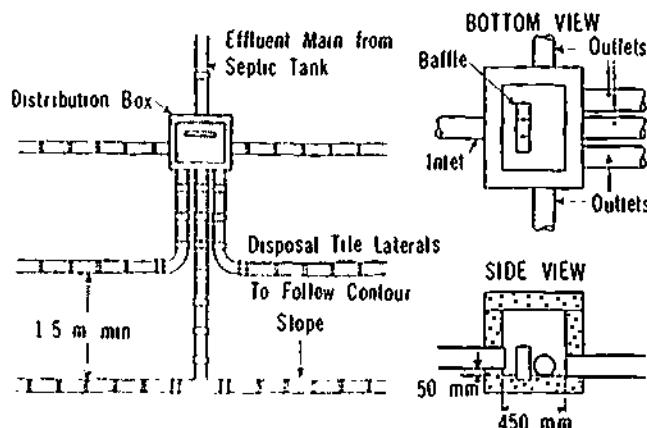
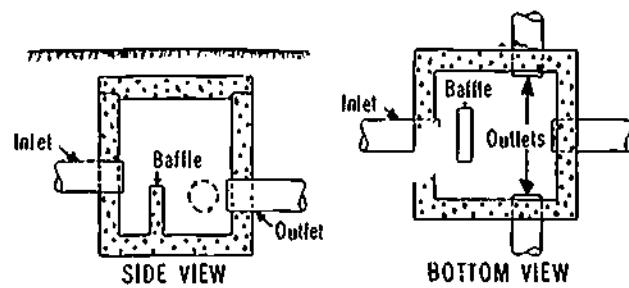
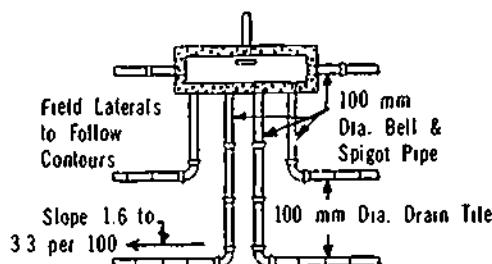

Figure 24-13. Field Design for Equal Distribution to All Laterals — for Hillsides or Non-Flushed Disposal Fields
Figure 24-14. Distribution Box for Fairly Level Ground Conditions
Figure 24-15. Distribution Chamber for Sloping Ground Conditions
b) Authorities agree that a distribution box is desirable in supplying all laterals equally, particularly where a siphon chamber is not used. Figure 24-13 shows details of one type of distribution box.
c) Figure 24-14 shows a somewhat differently constructed distribution box. Notice the difference between levels of the inlet pipe in both types. The outlets in the one in Figure 24-13 are located so that no liquid could remain in the box. There are advantages in both designs. It is important that all pipes in the box be cemented in place to make them watertight. A different-shaped box is shown for sloping disposal fields (Figure 24-15).